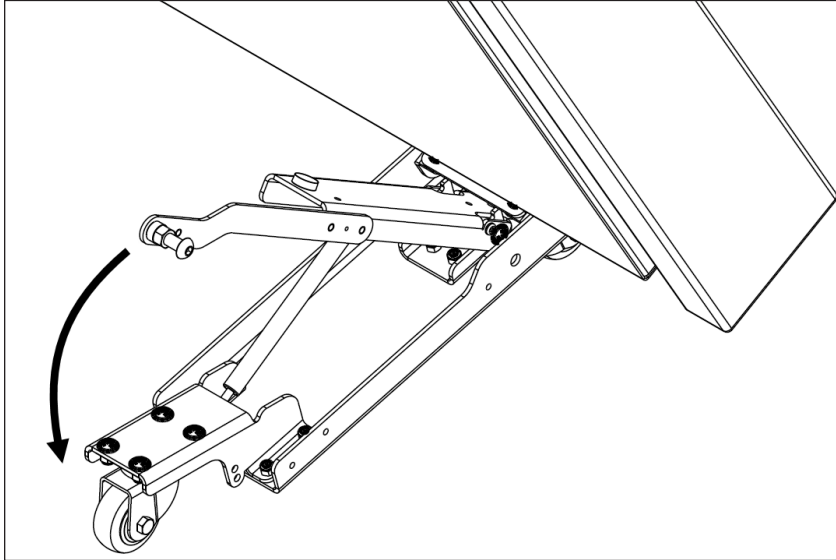

Figure 19: Pull Down Pivot Arm
3. Use the offset end of the Caster Base Tool as leverage to pull down the pivot arm and lower the right side of the table to the floor. Refer to **Figure 19**.